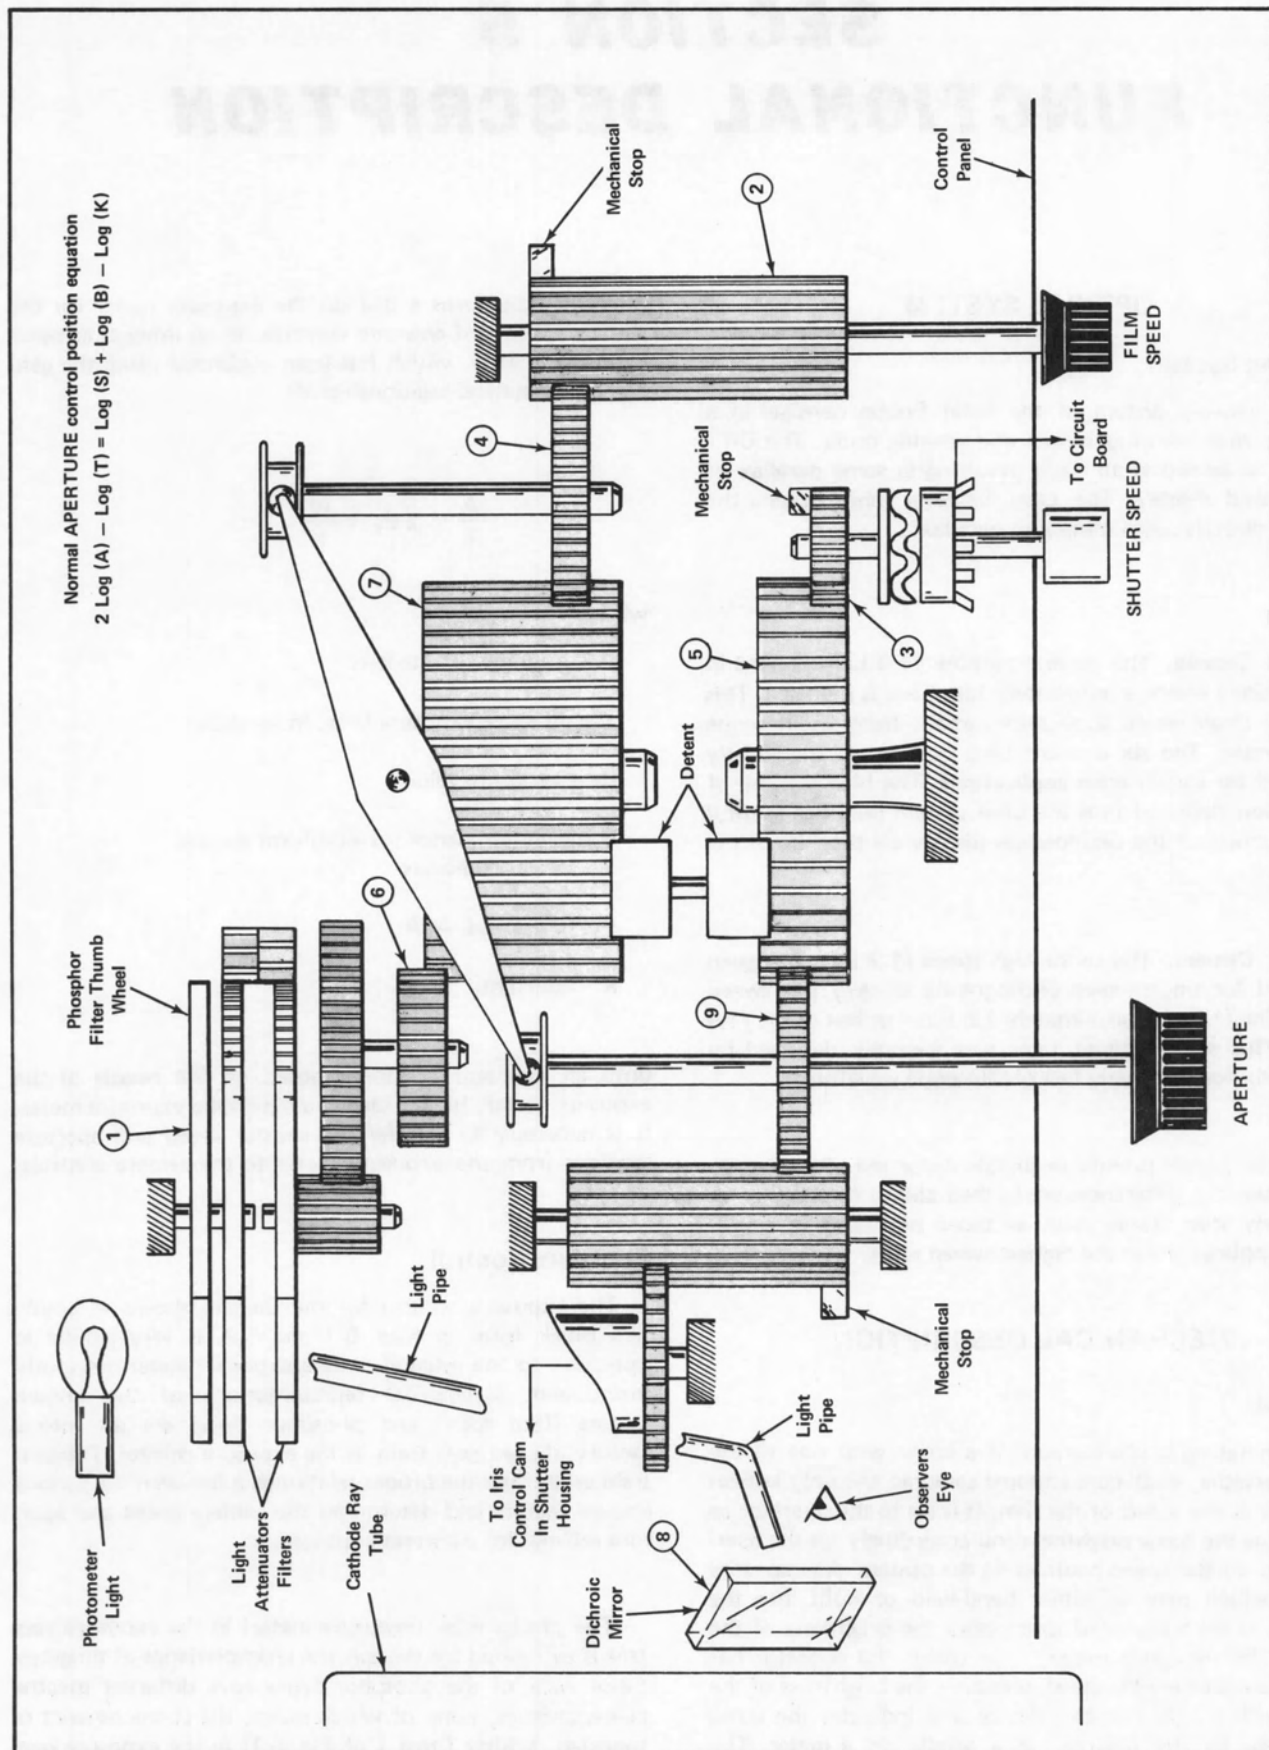
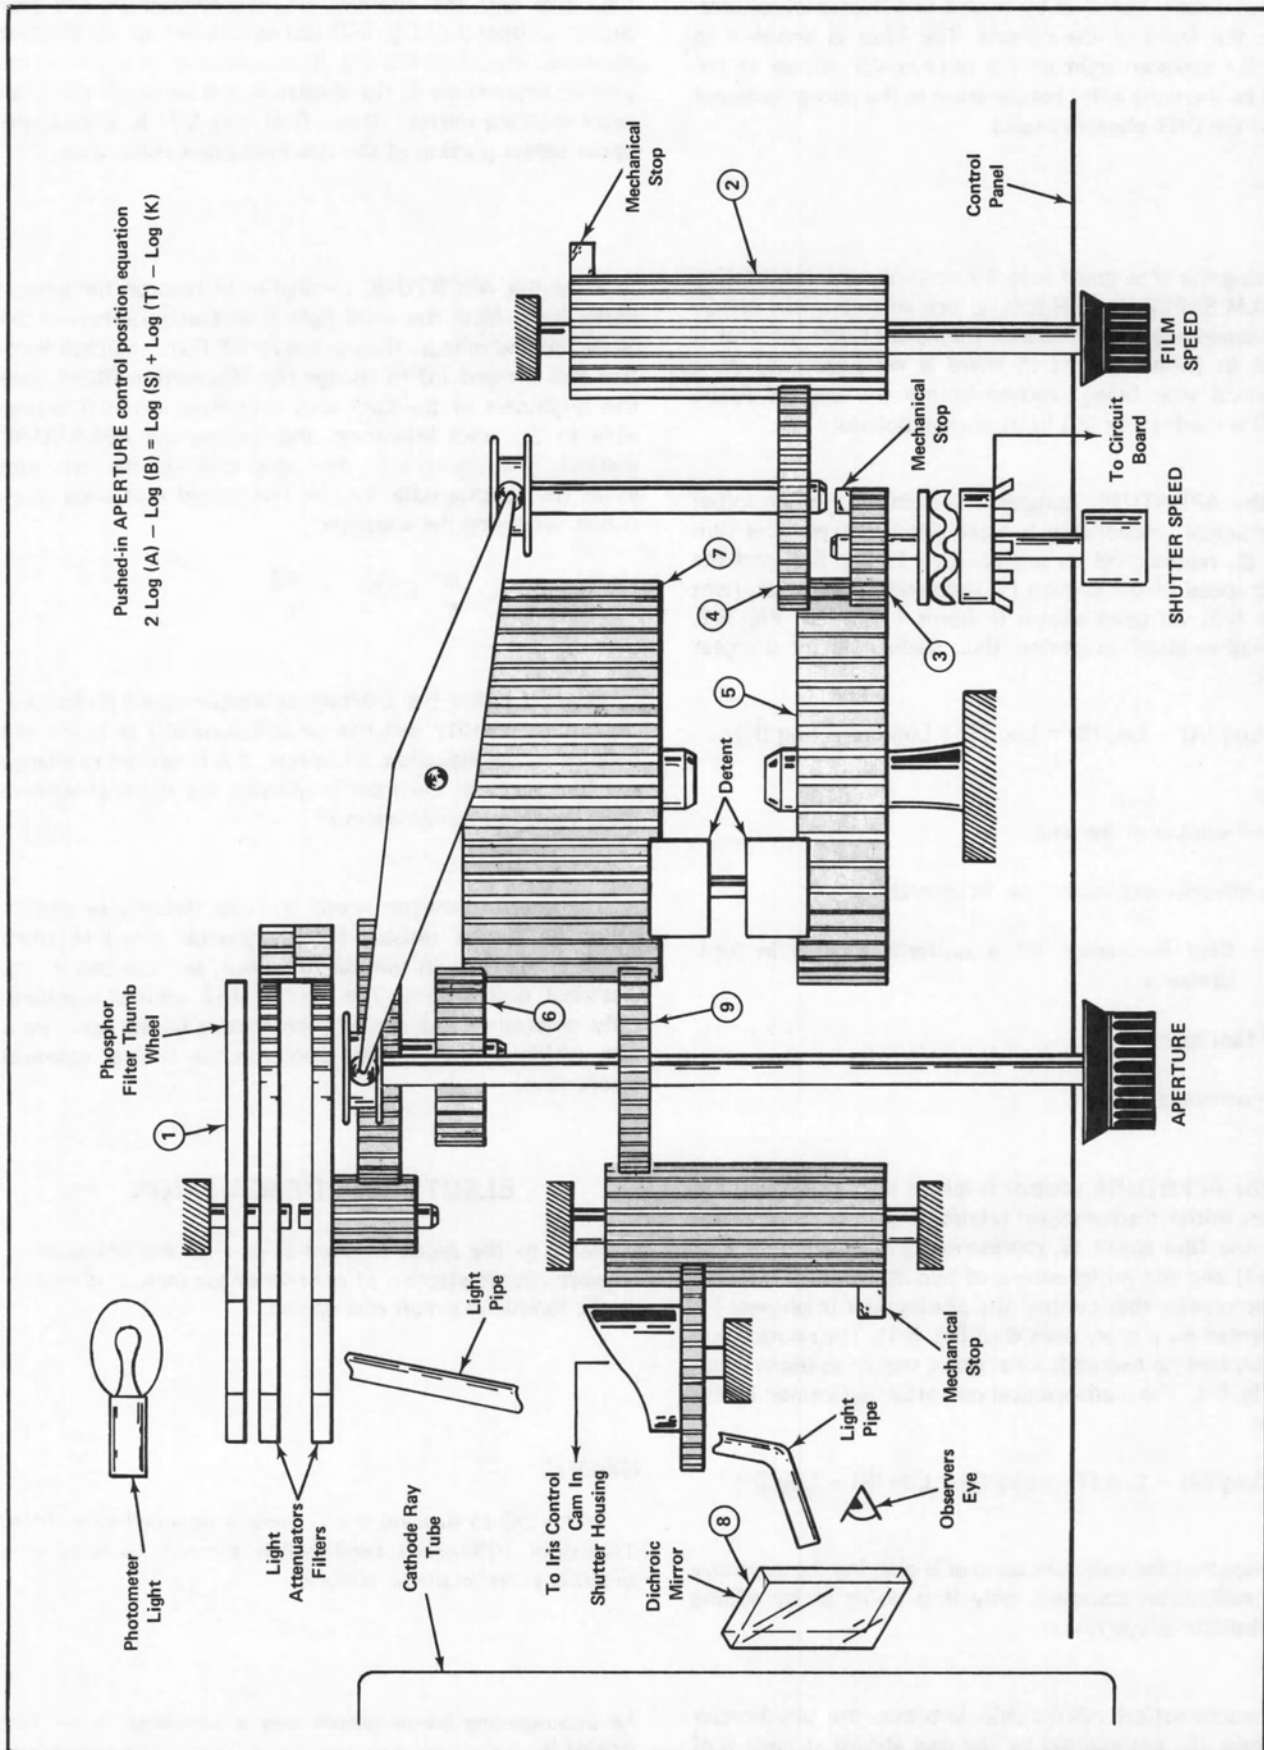

Fig. 5-1. Simplified illustration of exposure control when APERTURE control is in its normal position.
Fig. 5-2. Simplified illustration of the exposure control when APERTURE control is pushed in.
The exposure control for the Camera shown in simplified block form in Figs. 5-1 and 5-2, is very similar in operation to the integral camera/exposure meter previously mentioned. Mechanical representations of the known factors (film speed and phosphor type) are set into a factory aligned gear train in the exposure control. The gear train establishes the proper relationship between the various known factors and determines the camera speed and aperture settings for a correct exposure.
The photometer (exposure meter) in the exposure control is calibrated for the spectral characteristics of tungsten. Since each of the phosphor types have different spectral characteristics, none of which match the characteristics of tungsten, a filter (item 1 of Fig. 5-1) in the exposure con-
If the APERTURE control is pushed in, then an initial mathematical relationship is established between the film speed (S, represented by a gear, Item 2, Fig. 5-2) and the shutter speed of the camera (T, represented by a gear, Item 3, Fig. 5-2) via gears shown in Items 4 and 5 of Fig. 5-2. The mathematical operation thus performed by the gear train is:
If the APERTURE control is left in its normal position, then an initial mathematical relationship is established between the film speed (S, represented by a gear, Item 2 of Fig. 5-1) and the initial setting of two attenuation filters in the photometer that control the photometer brightness (B, represented by a gear, Item 6 of Fig. 5-1). The relationship is established via two additional gears, shown as Items 4 and 7 of Fig. 5-1. The mathematical operation performed in this case is:
Fig. 5-2) and the aperture (A, represented by the gear shown as Item 9 of Fig. 5-2) can now be set up, via the gear shown as Item 7 of Fig. 5-2. This is done by positioning the area of importance in the display to the center of the small beam-splitting mirror1 (Item 8 of Fig. 5-1) located in the upper center portion of the viewing tunnel vision area.